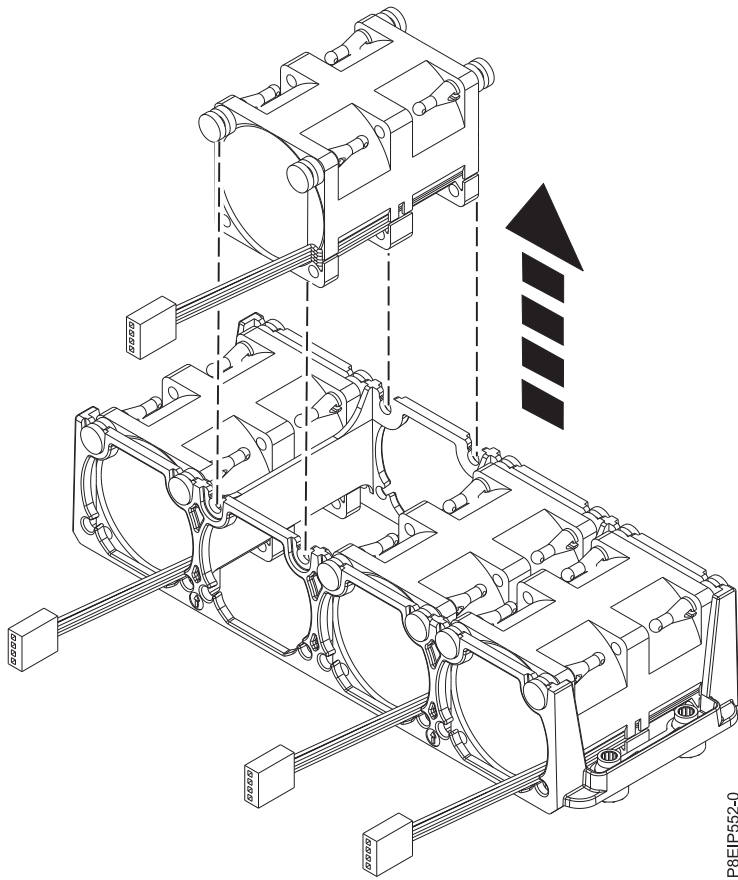

Figure 12. Removing a fan
4. Push the fan up from the holder as shown in Figure 12 on page 16.